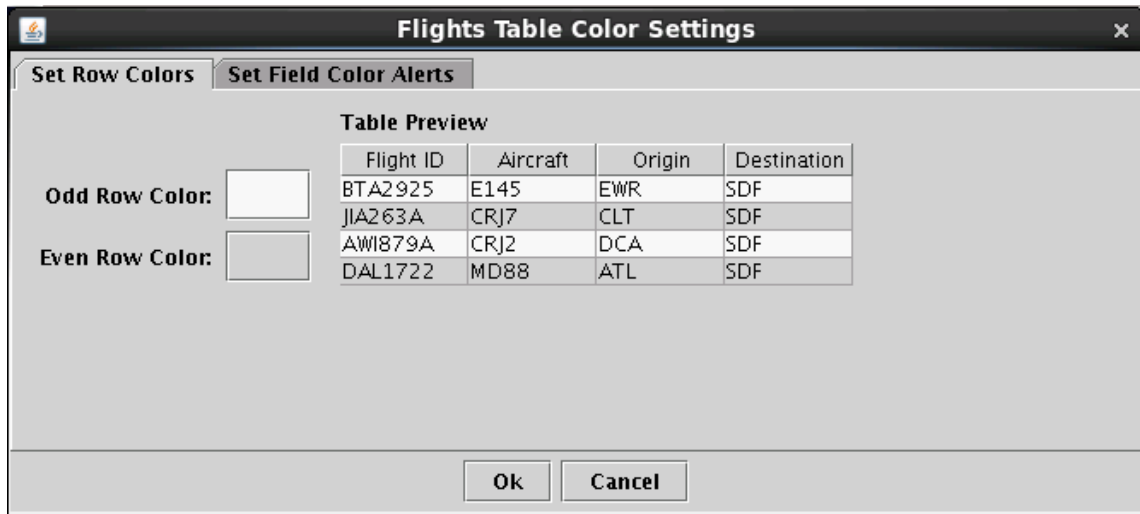

Figure 70. Flights Table Color Settings window – Set Row Colors.
**Step 1:** Click on the third button of the search field (Figure 59) to open the Flights Table Color Setting window (see Figure 70).
**Step 1:** On the “Set Row Colors” tab (Figure 70), click on the colored square next to either the “Even Row Color” or “Odd Row Color” option to change the color for that set of rows. A single click will open the Choose Row Color window.